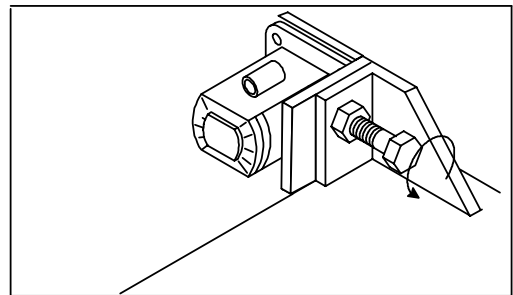

Figure 6. Chain tightening screw
8. Tighten the chain/belt using the tightening screw. See Figure 6. Tighten the chain until it is straight and has no slack. Tighten the belt until it can be depressed with the fingers at the centre by about 15 mm.